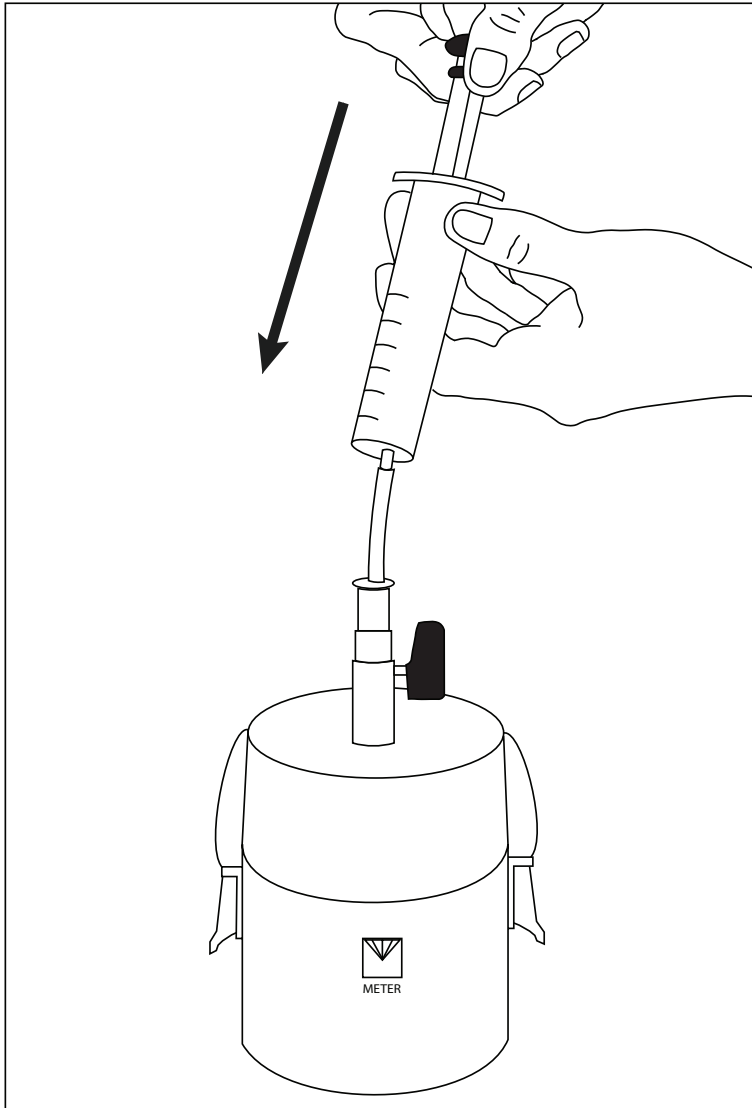

Figure 32 Release the plunger
30. To relieve the pressure, hold the plunger and the syringe. Next press in the plunger stoppers and let the plunger slowly move forward (Figure 32).